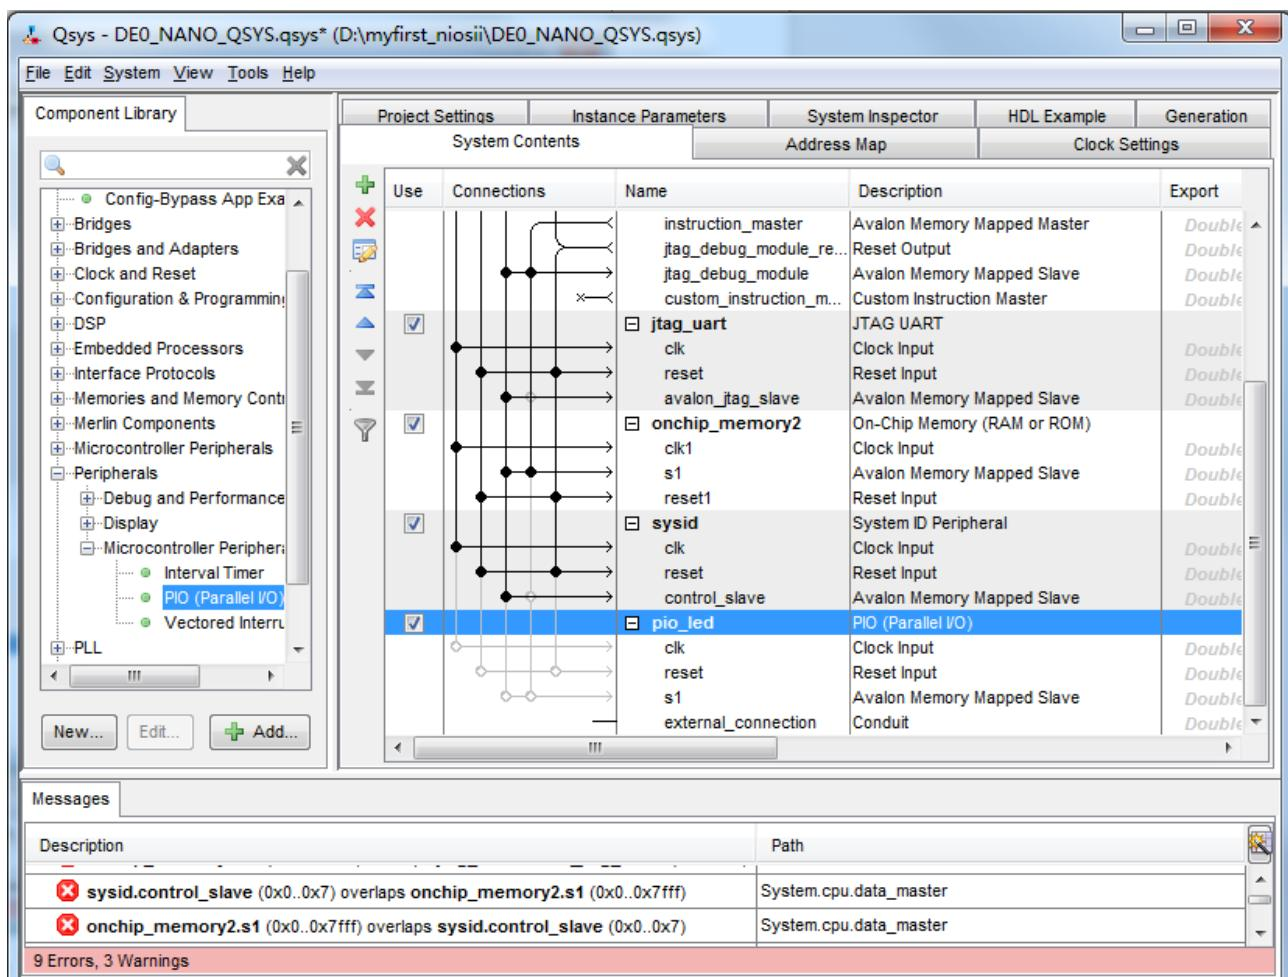

Figure 1-40 Rename PIO
25. Rename **pio_0** to **pio_led** as shown in **Figure 1-40**.